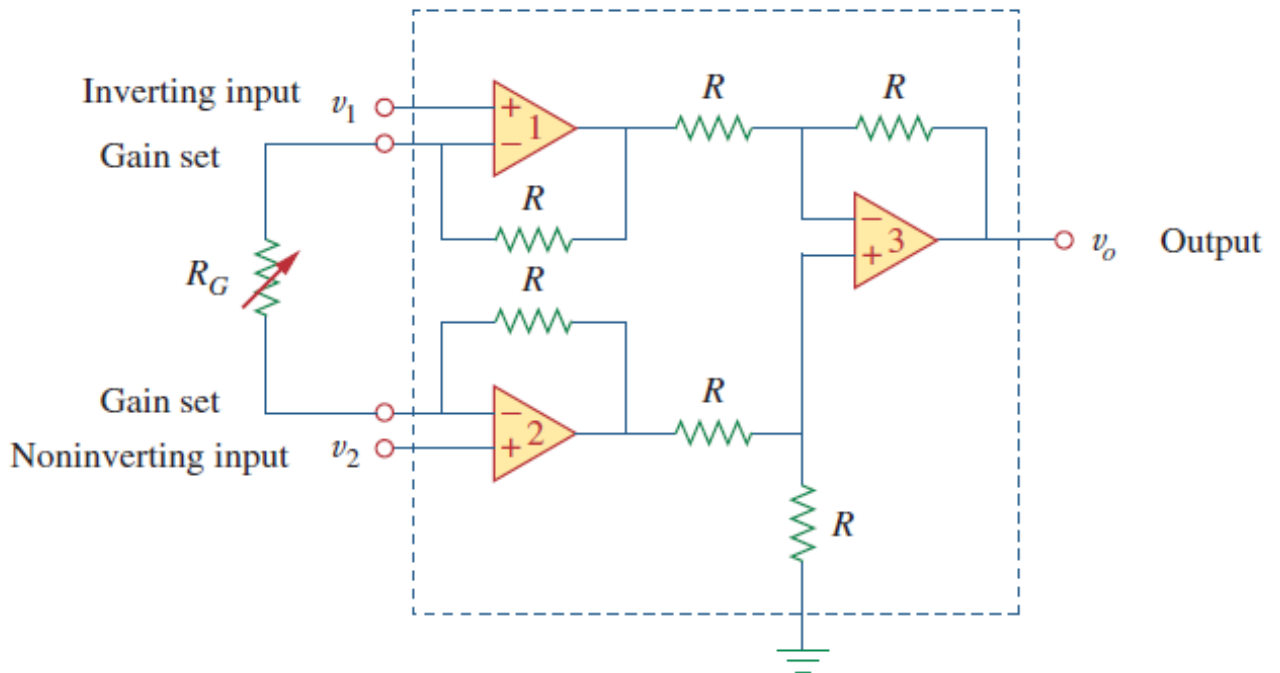

Figure 1: Instrumentation Amplifier
An instrumentation amplifier shown in Fig. 1 is a differential amplifier that has been outfitted with input buffer amplifiers (which eliminate the need for input impedance matching and thus make the amplifier particularly suitable for use in measurement and test equipment). Additional characteristics include very low DC offset, low drift, low noise, very high open-loop gain, very high common-mode rejection ratio, and very high input impedances. Instrumentation amplifiers are used where great accuracy and stability of the circuit both short and long-term are required. This is a special amplifier used to measure small electrical signals from sensors and amplifies them.
- 1. Hook up the circuit as shown in Fig. 1 on breadboard.
S. No	V_1	V_2	R_G	$V_{out} (V)$